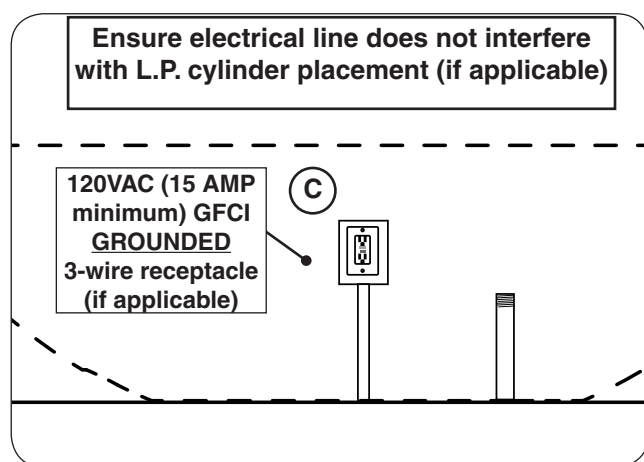

Fig. 22-2 Route electrical (if applicable)
1. Wire the receptacle into the area that the unit will rest over (see Fig 22-2, C).